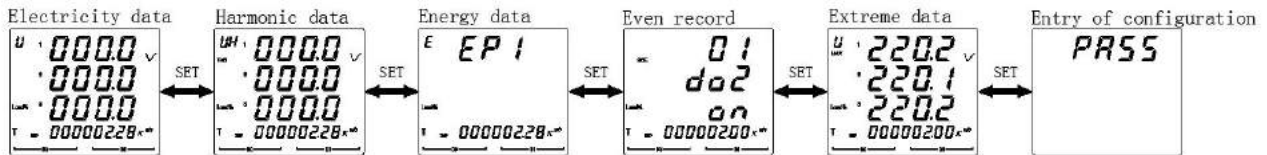

Figure 13.
5.2.3 The steps for viewing various types of power parameters of the AMC72L/96L are shown in Figure 13.